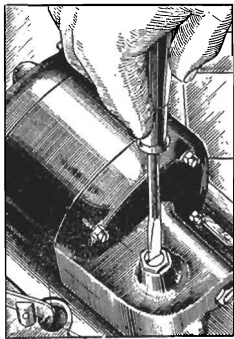

Figure 8—Adjusting spindle height
- (a) Improper turntable spindle height. The height of the turntable spindle nose should be approximately $\frac{1}{32}$ " above the inside bottom surface of the record magazine. Adjustment of this height made by means of the screw at the bottom of the motor. (See Figure 8).
- (b) Turntable spindle shaft too low. This condition will cause binding between the pawl carrier and the clutch wheel. Raise the spindle as shown in Figure 8.
(13) RETIMING THE MECHANISM